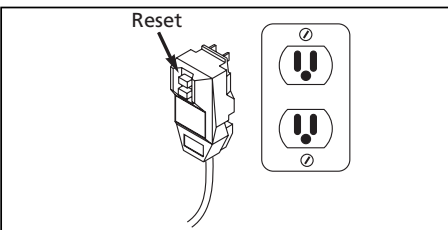

Figure 3 - Grounded plug/reset button
1. Plug the power cord into a grounded 120V outlet and press the reset button as shown in Figure 3.